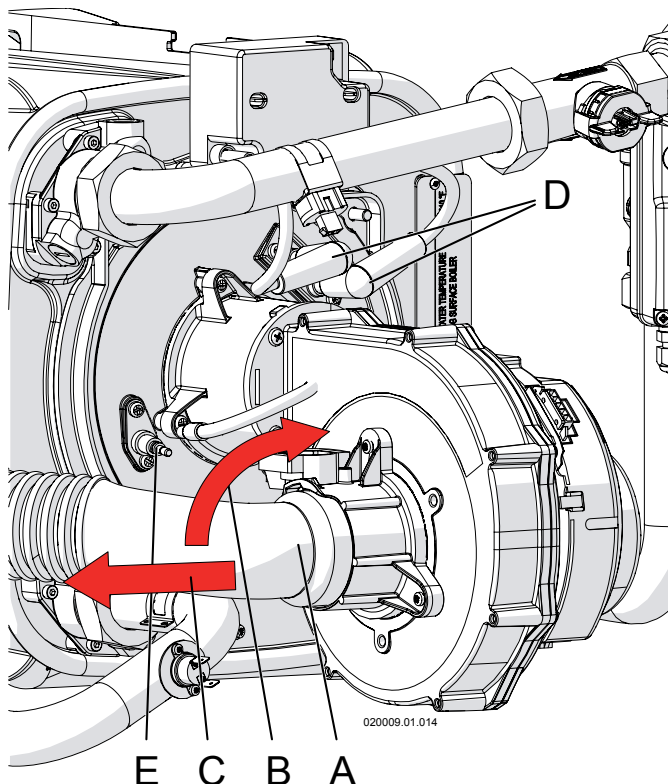

Figure 16-4 Remove the air inlet silencer
- 4.- Disconnect the two wires "D" (Figure 16-4) from the ignition electrodes and the wire "E" (Figure 16-4) from the flame detection electrode;
- 5.- Rotate the air inlet silencer "B" (Figure 16-4) in the up direction;
- 6.- Pull in the left direction "C" (Figure 16-4) the air inlet silencer and remove it from the fan;